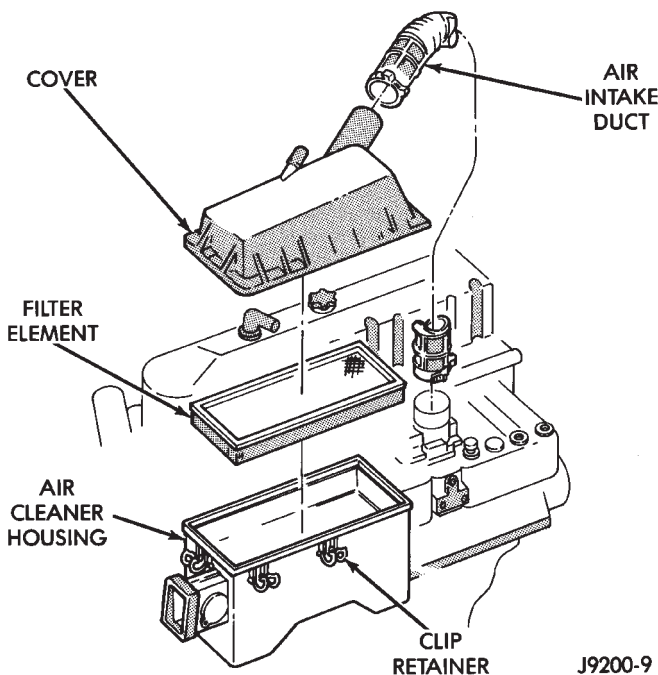

Fig. 10 Air Cleaner Body/Housing & Cover
(2) Remove the air cleaner element from the body/housing.
(3) Hold a shop light on throttle body side of element. Inspect air intake side of element. If element is saturated with oil or light is not visible, replace filter. If element is saturated with oil, perform crankcase ventilation system tests.
(4) Wash the air cleaner cover and body/housing (Fig. 10) with cleaning solvent and wipe dry.